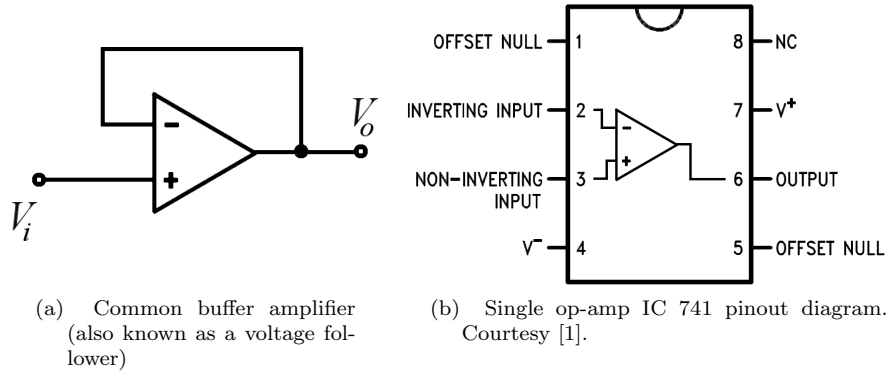

Figure 7.2: Buffer construction for viewing on the spectrum analyzer
3. Buffer the output signal according to Figure 7.2 to view it on the spectrum analyzer (attenuate as needed). Sketch the waveform observed on the spectrum analyzer.